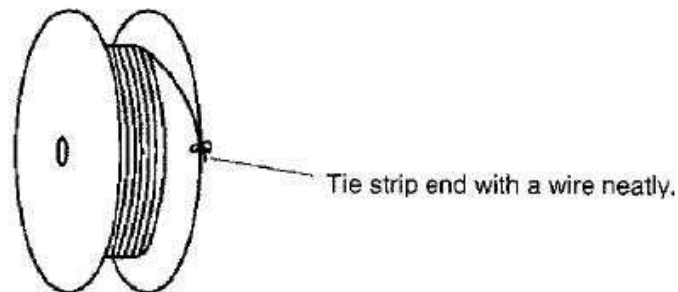

Fig. 6
- (3) Avoid storing the contact reel in a moist or dusty place. Stock the reel in a comparatively dry and clean place (5~34 °C, 45~85%RH) away from direct sunlight.
- (4) When removing the contact reel from the machine, fasten the end of the contact strip onto the edge of the reel with use of proper string or wire. Fig.6